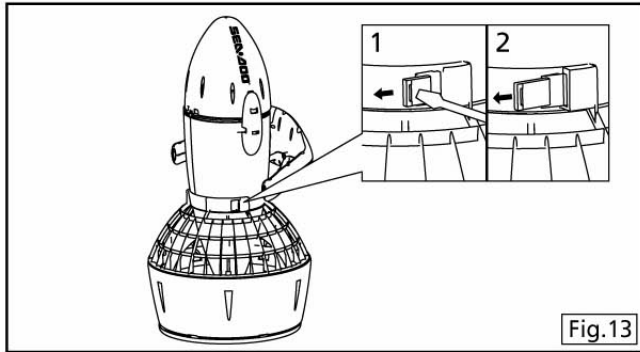

Fig.13
3. Insert a screw driver as shown in figure 13 to remove the two grille pins.